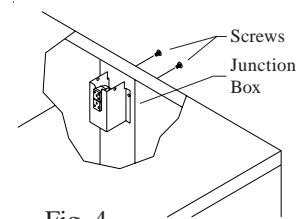

Fig. 4
• **Remove junction box.** The electrical junction box is located in the upper inside of the left center post. Remove the two screws and pull box out from panel for access to plug wiring (Fig. 4).